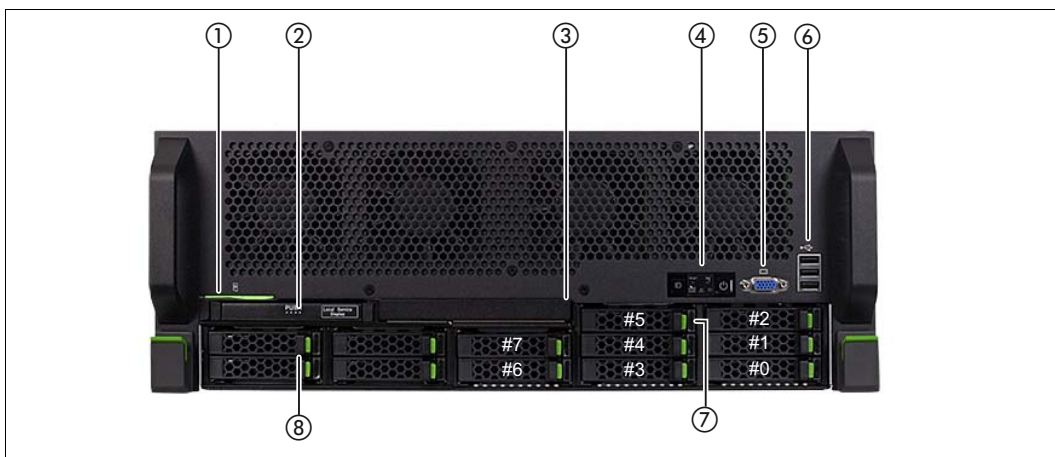

Figure 1: Server Unit (front)
You can pull the ID card (see figure 1 on page 10) out and push it in again as far as it will go.
The MAC addresses entered on the green ID card refer to LAN #1 (SYS1) and #2 (SYS2). The MAC addresses of LAN ports #3 (not used) and #4 (not used) are then the next two MAC addresses in ascending order. The green ID card is located on the front of the Application Unit, see item 1 in figure 1 on page 10.